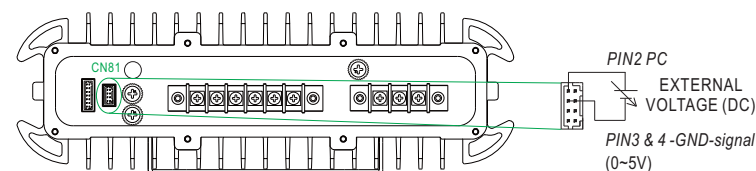

Figure 5-4
- 1.Connect output of the external DC source to PC and GND-signal, as shown in Figure 5-4. For detailed pin assignment of each type, please refer to chapter 4.